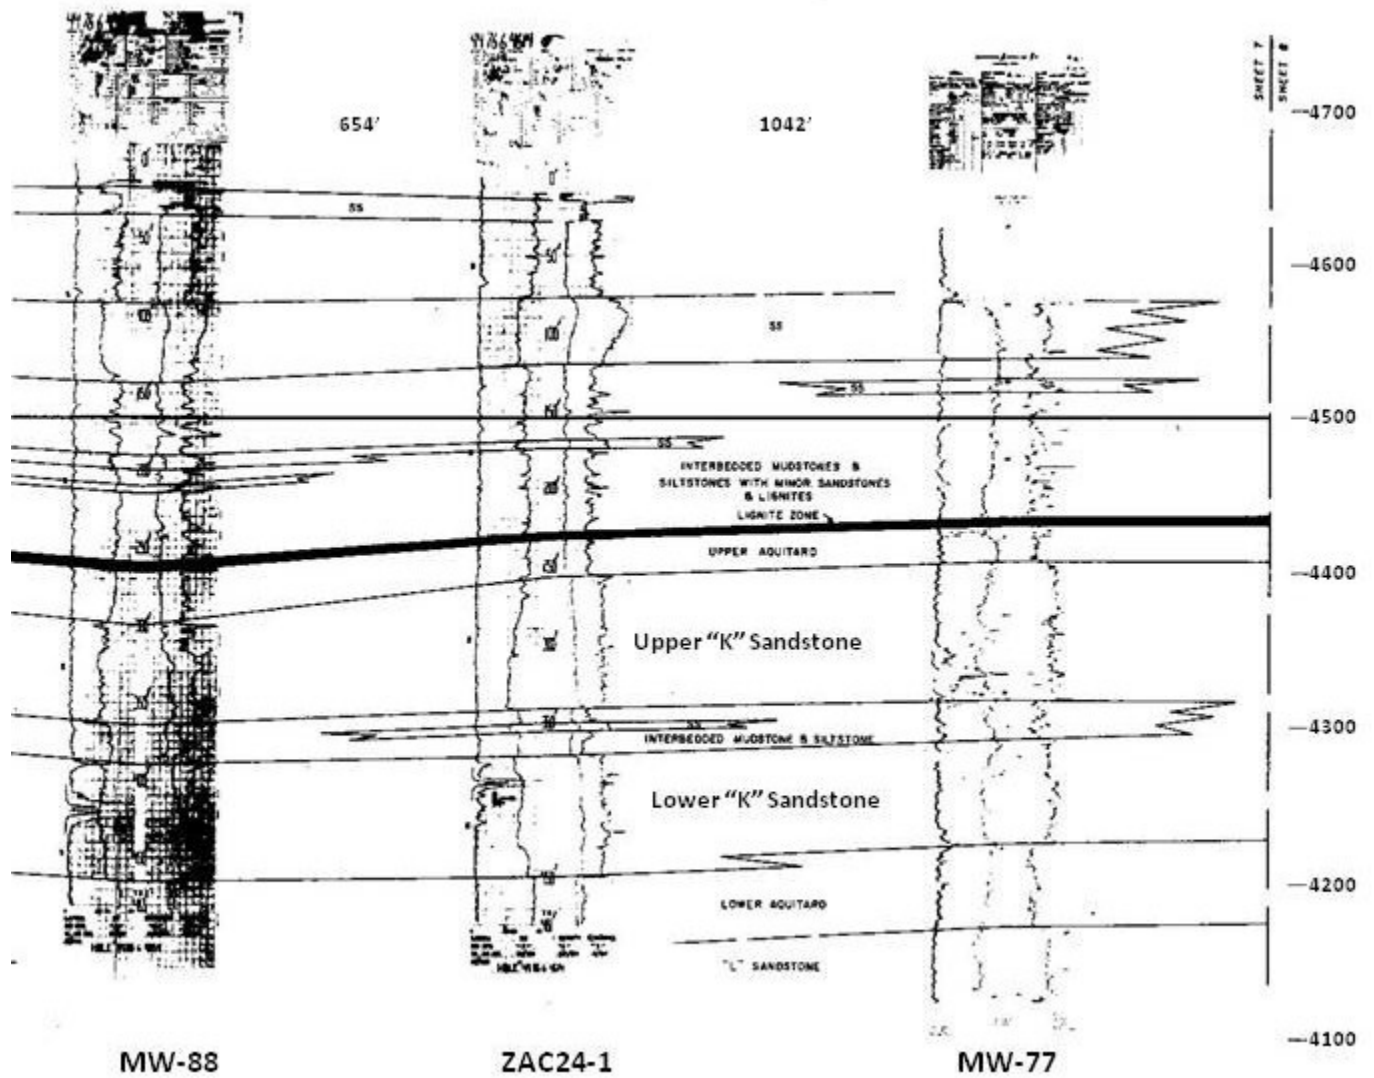

Figure 2: Stratigraphic cross section showing the Upper and Lower "K" Sandstone aquifer.
8. **Project.** A stratigraphic cross section of a uranium roll front deposit is shown in Figure 2. The uranium deposit is in the “K” sandstone aquifer. Treating both the Upper and Lower “K” Sandstone units as one continuous aquifer, estimate its thickness.